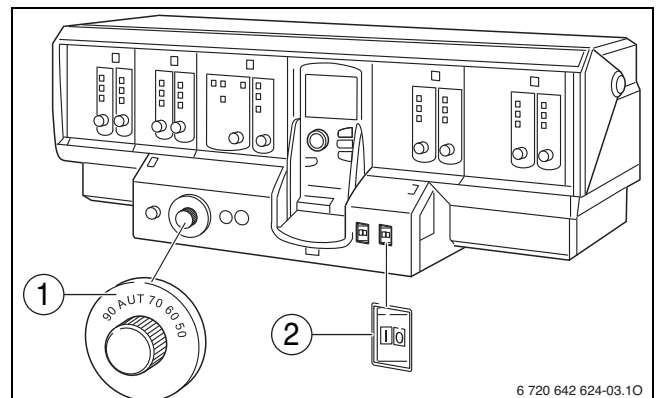

Fig. 3 Control panel (for example: Logamatic 4000)
Start your boiler via the control panel (→ Fig. 3). By starting the control panel, you also automatically start the burner. The burner is then fired by the control panel. For further details, see the operating instructions of the relevant control panel or burner.
Shut down your boiler via the control panel (→ Fig. 3). The burner is automatically shut down when the control panel is switched off.
- ▶ Set the ON/OFF switch (→ Fig. 3, [2]) to "0" (OFF).